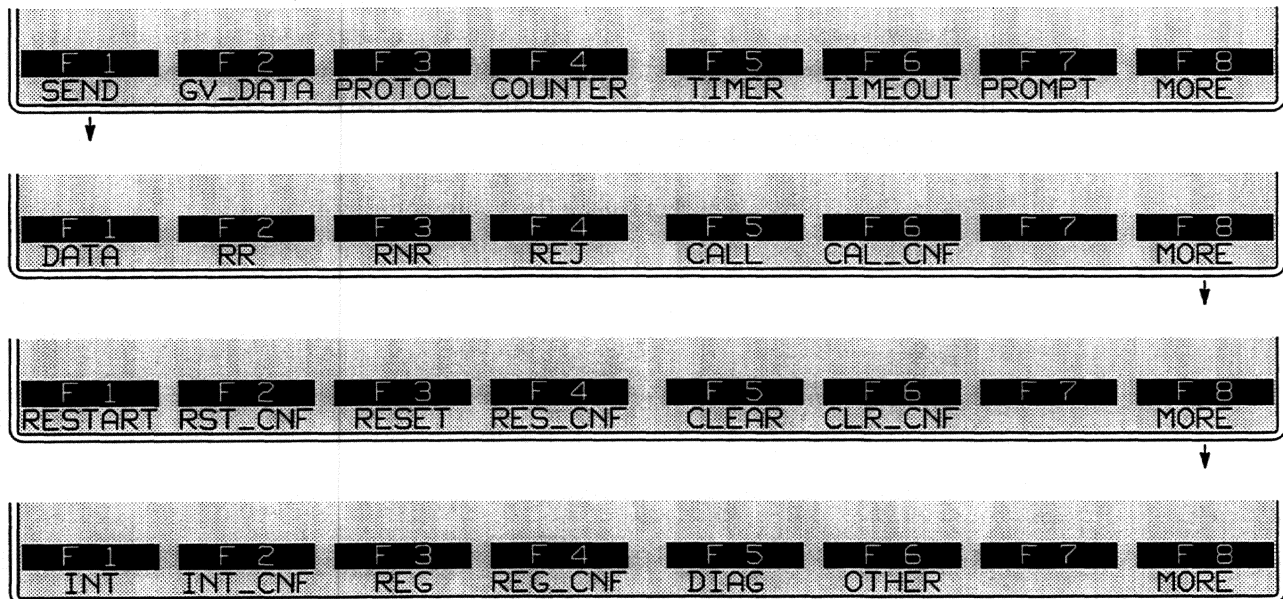

Figure 38-22 SEND actions always specify a packet type.
Press the softkey for SEND to access three racks of softkeys with names of packet types that may be named in SEND actions. All data generated by the Layer 3 X.25 package must be enclosed in a packet that is identified in a SEND action by *type*. (Only at Layer 1 can data be generated as a simple character string without any protocol building blocks.) The complete set of packet types is given in Figure 38-22.
5. *“Other” packets.* Any packet type may be entered in a SEND action as a hexadecimal value instead of by name. Press the softkey for OTHER, on the bottom rack in Figure 38-22. Enter the hex value in the form of two alphanumerics. Here is a Call Confirm packet entered as a SEND OTHER action: